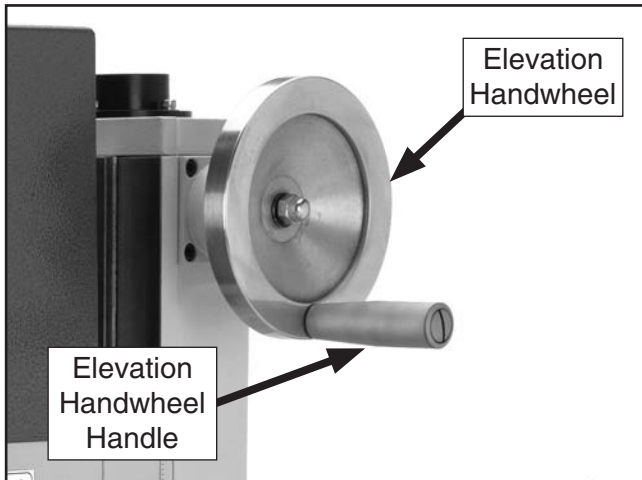

Figure 12. Elevation handwheel handle.
1. With a #3 standard screwdriver, install the large handwheel handle on the elevation handwheel (**Figure 12**).